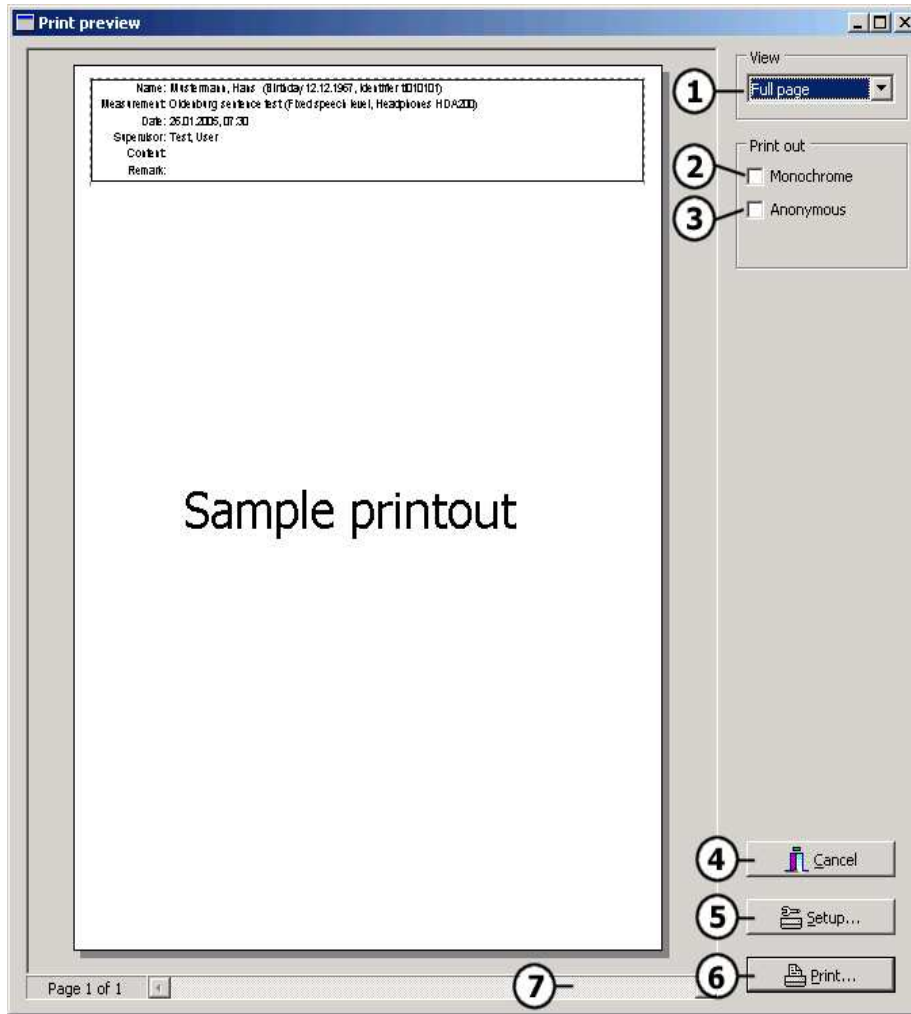

Figure 18
If you click button ⑦ 'Print' (see above) the standard printer configuration dialog is shown. If you click button ⑥ 'Print preview' a dialog with a print preview containing some controls for the configuration of the printout (Figure 18):